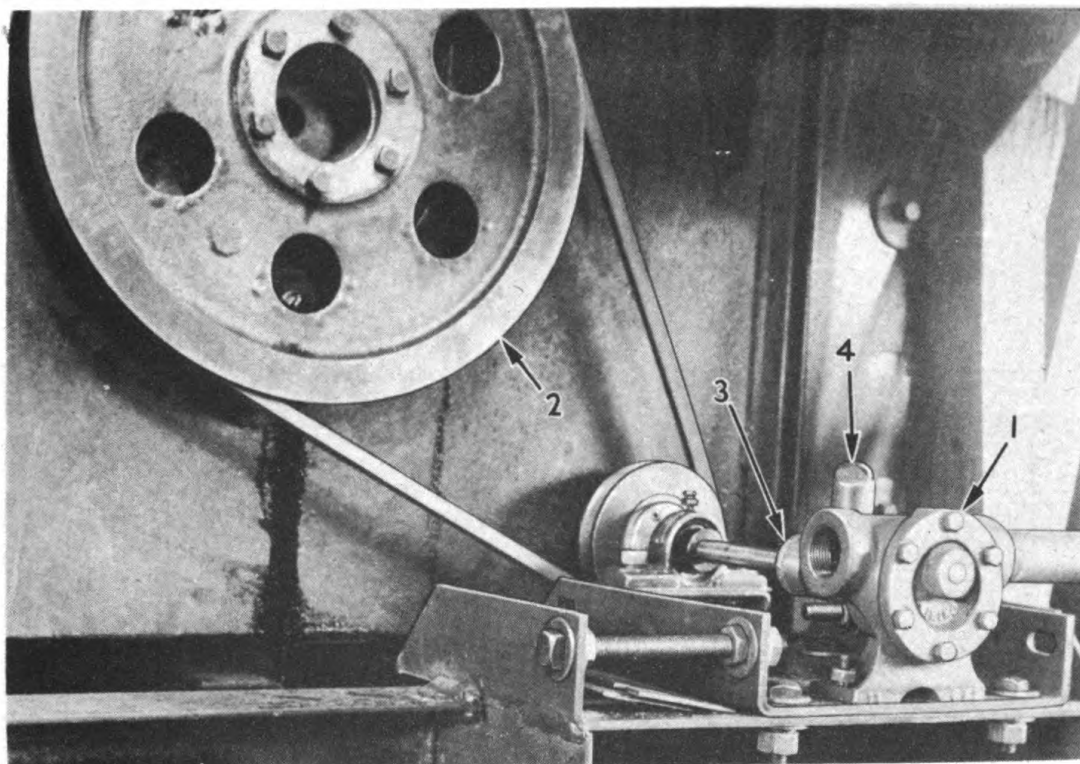

FIG. 15 - DRYER FUEL PUMP ASSEMBLY.
Fuel is supplied to the burners by a rotary type fuel pump (1) Fig. 15, mounted on the dryer main frame below the charging end of the drums. The pump is V belt driven from a pulley (2) on the end of the speed reducer shaft. The suction side of the pump is connected to a fuel supply tank as described above. The discharge side of the pump is piped directly to the dryer burners.